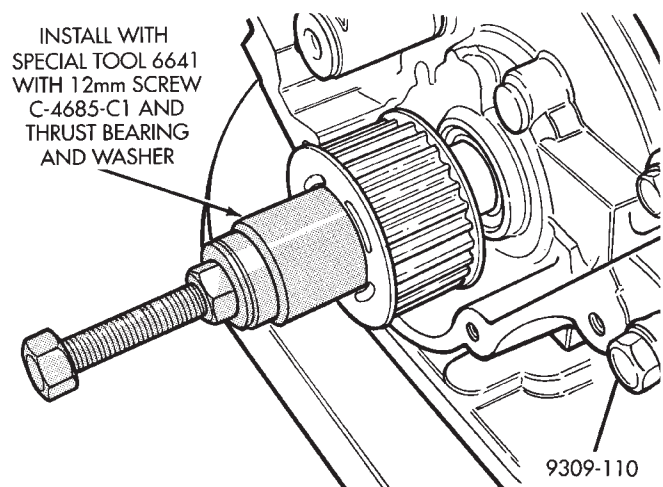

Fig. 80 Crankshaft Sprocket—Installation
- (3) Install crankshaft sprocket using special tools shown in (Fig. 80).